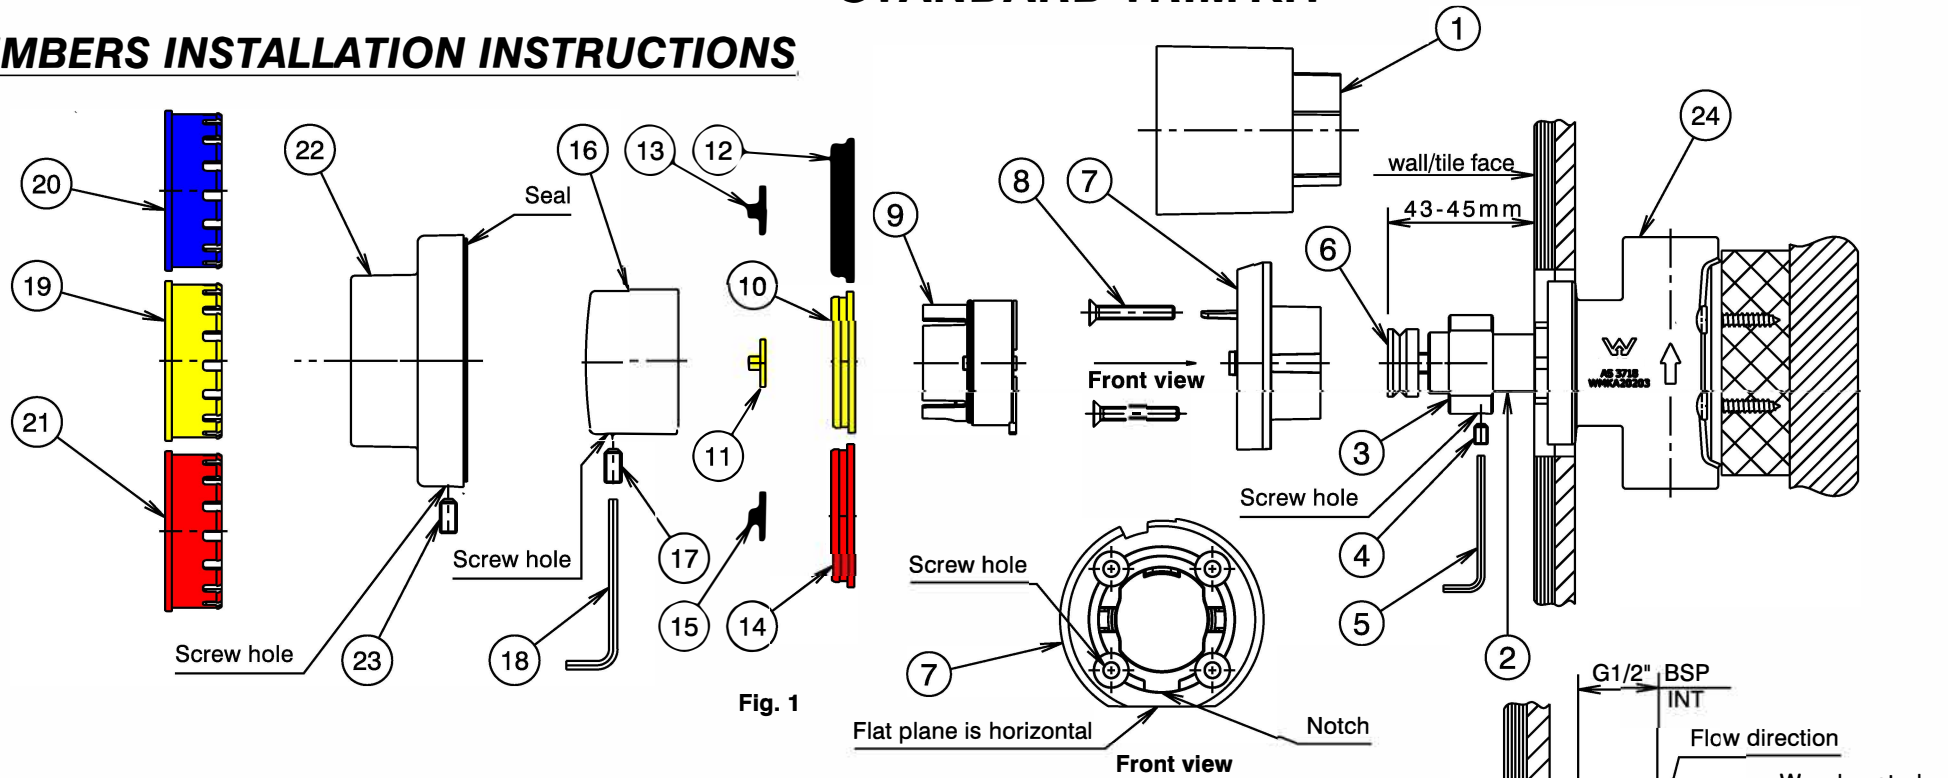
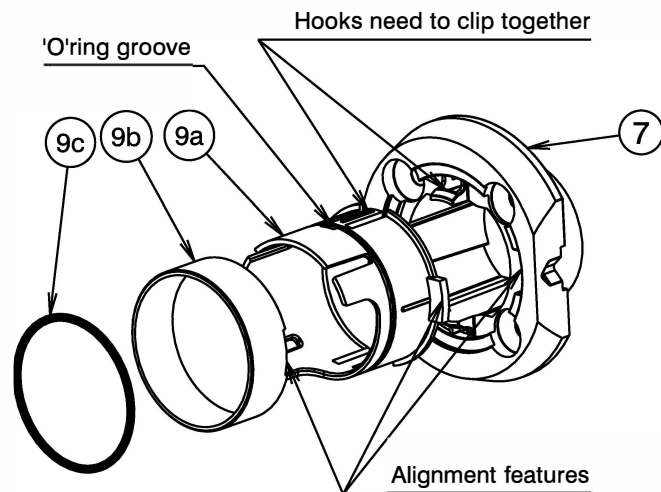

Fig. 1
Fig. 3
- 1) Remove installation template (1) from inwall body (24).
- 2) Ensure screw hole of adaptor (3) pointing down, fit adaptor (3) onto cartridge (2) and tighten screw (4) using 2.0mm allen key (5).
- 3) Screw adjusting screw (6) into adaptor (3). **Important: The top face of adjusting screw (6) to wall/tile face must be between 43-45mm as shown in Fig. 1.**
- 4) Ensure flat plane of mounting flange (7) is horizontal at the bottom, as shown on **Front view**. Align screw holes of mounting flange (7) with the screw holes in mixer body (24), then tighten screws (8) until mounting flange (7) firmly against wall/tile face. **DO NOT OVERTIGHTEN.**
- 5) Remove (9c) 'O'-ring from sub-assembly (9) followed by chrome retaining ring (9b). Ensure alignment feature and hooks on handle rotation lock (9a) aligned with the notch and hooks on mounting flange (7), fit handle rotation lock (9a) into mounting flange (7) till hooks clip together as shown in **Fig. 3**. Ensure alignment feature on retaining ring (9b) aligned with alignment feature on handle rotation lock (9a), refit retaining ring (9b) into handle rotation lock (9a) then refit 'O'-ring (9c) into 'O'-ring groove on handle rotation lock (9a) as shown in **Fig. 3**.
- 6) If warm water is needed, push yellow bottom indicator (10) into handle (16) until indicator completely against underside of handle (16). Fit yellow top indicator (11) into handle, ensuring the screw hole vertically pointing down as shown in **Fig. 1**, then fit handle assembly onto the top face of adjusting screw (6) until handle assembly stop. Tighten grub screw (17) using 2.5mm torx key (18).
If cold water is needed, push blue bottom indicator (12) into handle (16) until indicator completely against underside of handle (16). Fit blue top indicator (13) into handle, ensuring the screw hole vertically pointing down as shown in **Fig. 1**, then fit handle assembly onto the top face of adjusting screw (6) until handle assembly stop. Tighten grub screw (17) using 2.5mm torx key (18).
If hot water is needed, push red bottom indicator (14) into handle (16) until indicator completely against underside of handle (16). Fit red top indicator (15) into handle, ensuring the screw hole vertically pointing down as shown in **Fig. 1**, then fit handle assembly onto the top face of adjusting screw (6) until handle assembly stop. Tighten grub screw (17) using 2.5mm torx key (18).
- 7) handle (16). Fit red top indicator (15) into handle, ensuring the screw hole vertically pointing down as shown in **Fig. 1**, then fit handle assembly onto the top face of adjusting screw (6) until handle assembly stop. Tighten grub screw (17) using 2.5mm torx key (18).